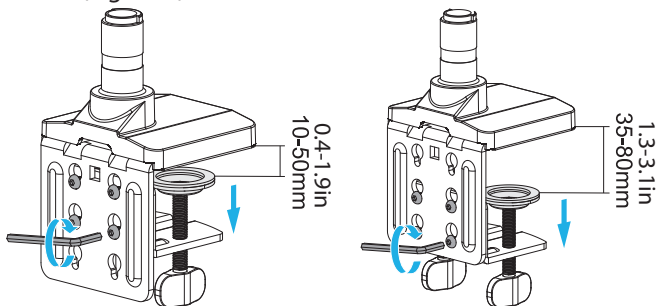

Figure 6
4. Pass the **Screws** through the **Screw Holes** in the **Top Desk Clamp**. Choose the **Top** and **Middle** or **Middle** and **Bottom** **Screws Holes** based on the **Thickness** of the **Desk**. Slide the **Screws** down into the smaller portion of the **Screw Holes**. (Figure 6)